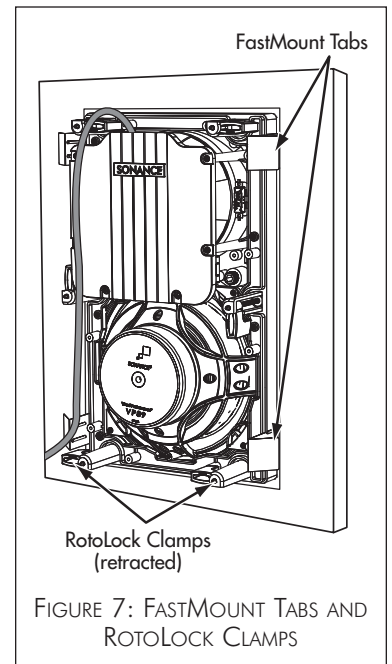

FIGURE 7: FASTMOUNT TABS AND
- The FastMount tabs will prevent the speaker from falling out of the mounting hole, allowing you to let go of the speaker to pick-up tools or other items (*Figure 7*).